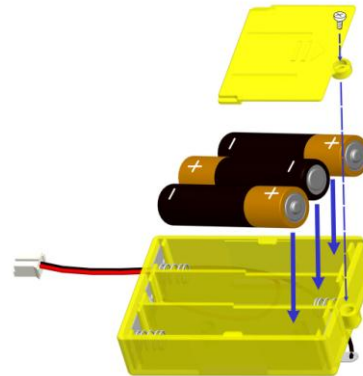
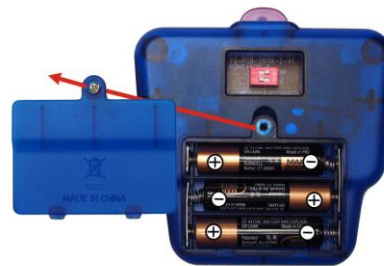

Fig. 13
Fig. 14
11. Now you are done! Use a cross head screwdriver (not included) to loosen the screw in the battery compartment door of the battery box (14), install 3 AAA batteries according to the polarity mark. (Fig. 13) Replace the door and tighten the screw. Similarly, install 3 AAA batteries into the remote control (13) as shown in Fig. 14.